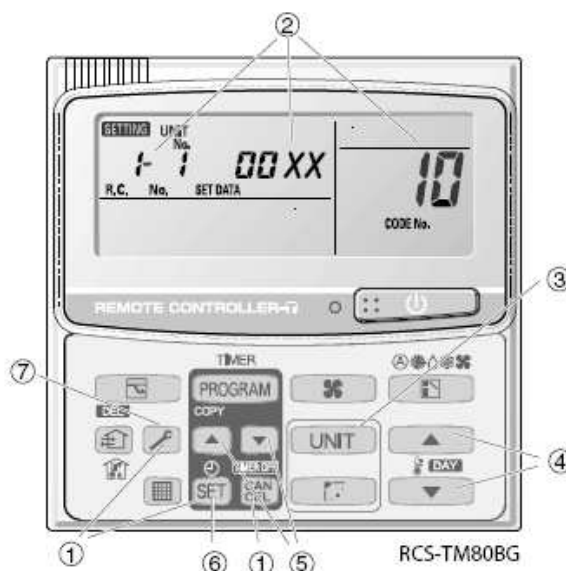

Fig. 7-2
- ① Press and hold the , **SET** and **CAN CEL** buttons simultaneously for 4 seconds or longer.
- ② "SET DATA," unit No. "**I- I**" (or "**ALL**" in the case of group control), item code "**10**," and settings data "**00 XX**" are displayed blinking on the remote controller LCD display (Fig. 7-2).